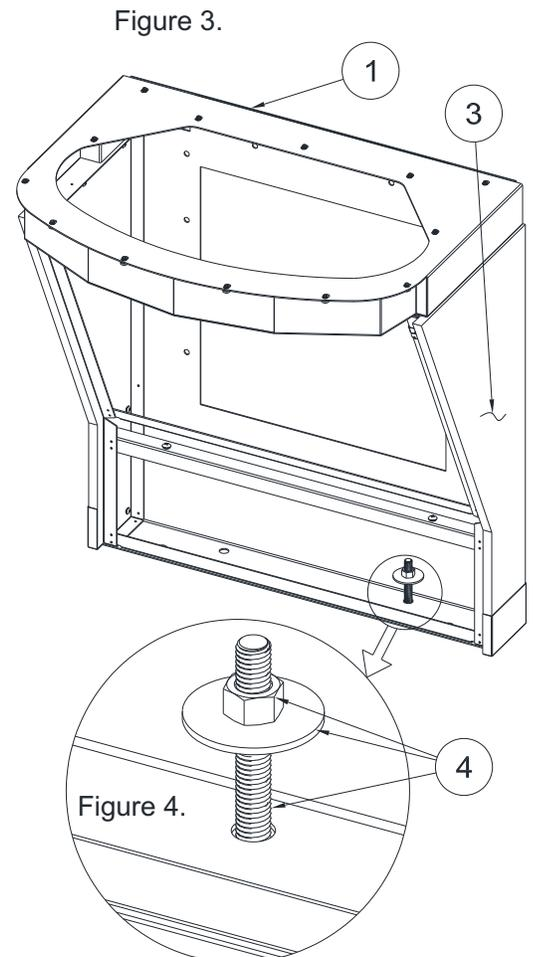

Figure 3.
1. Position the Frame [1]: Place the Frame [1] in the desired location, aligning it with the pre-installed Floor Hardware [4]. Assemble Floor Hardware [4] but do not fully tighten them at this stage. **FIGURE 3 & 4.**
1. Secure Lower Panel [1] by Sliding it between the Scuff Plate [2] and the Mounting Bar [3] located on the inside of the fixture. Securing the S clip [4] as shown in **Figure 2** and additionally securing the mounting bar [3] in place as shown in **Figure 3**.